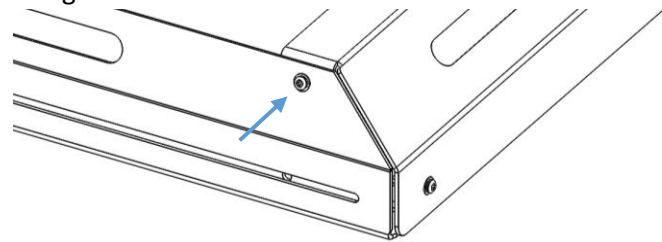

Figure 12: Back Panel to Side Rail Assembly
8. Secure the Back Panel to the Side Rail as shown in Figure 12 on both sides.